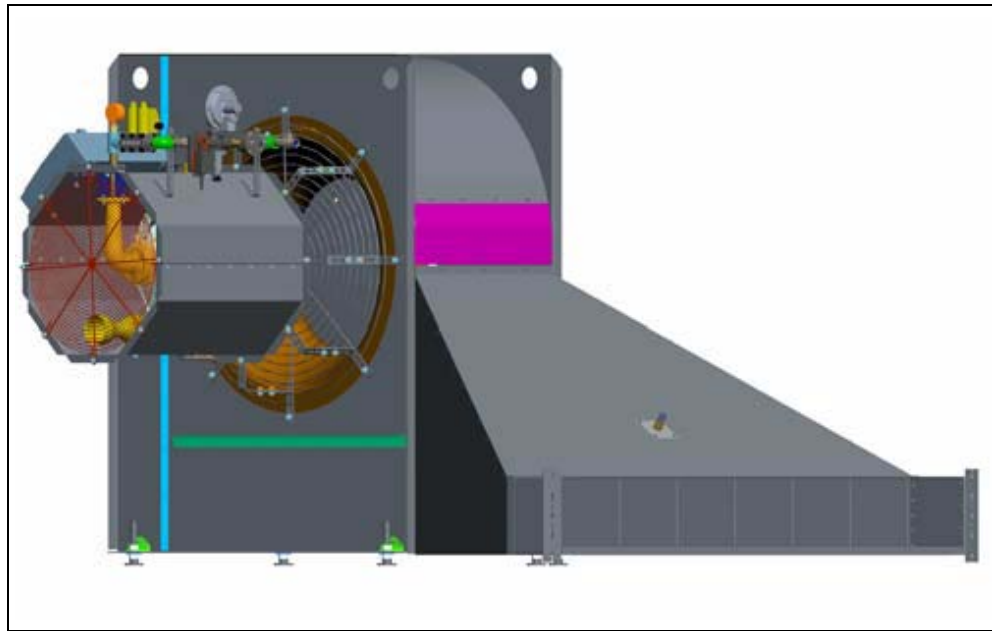

Figure 4F Transition High-Limit
3. Place transition high-limit and attached with self-drilling screws (S-280) (4). *(See Figure 4F.)*